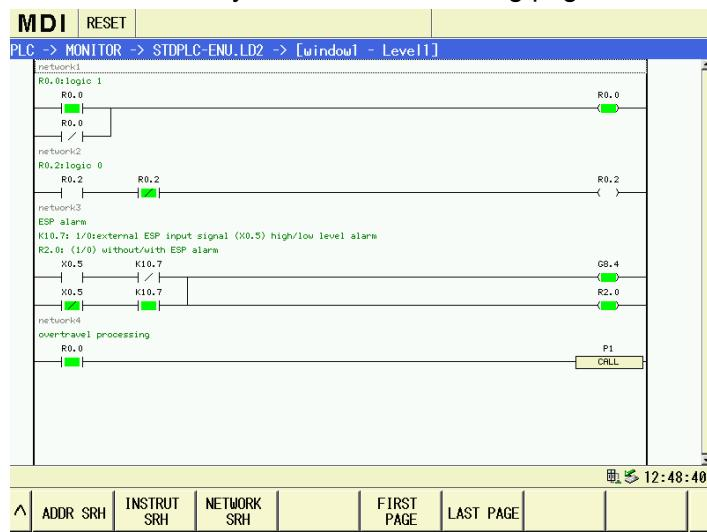

Fig.3-24
(2) Press software key to enter the searching page, which is shown in Fig.3-24: